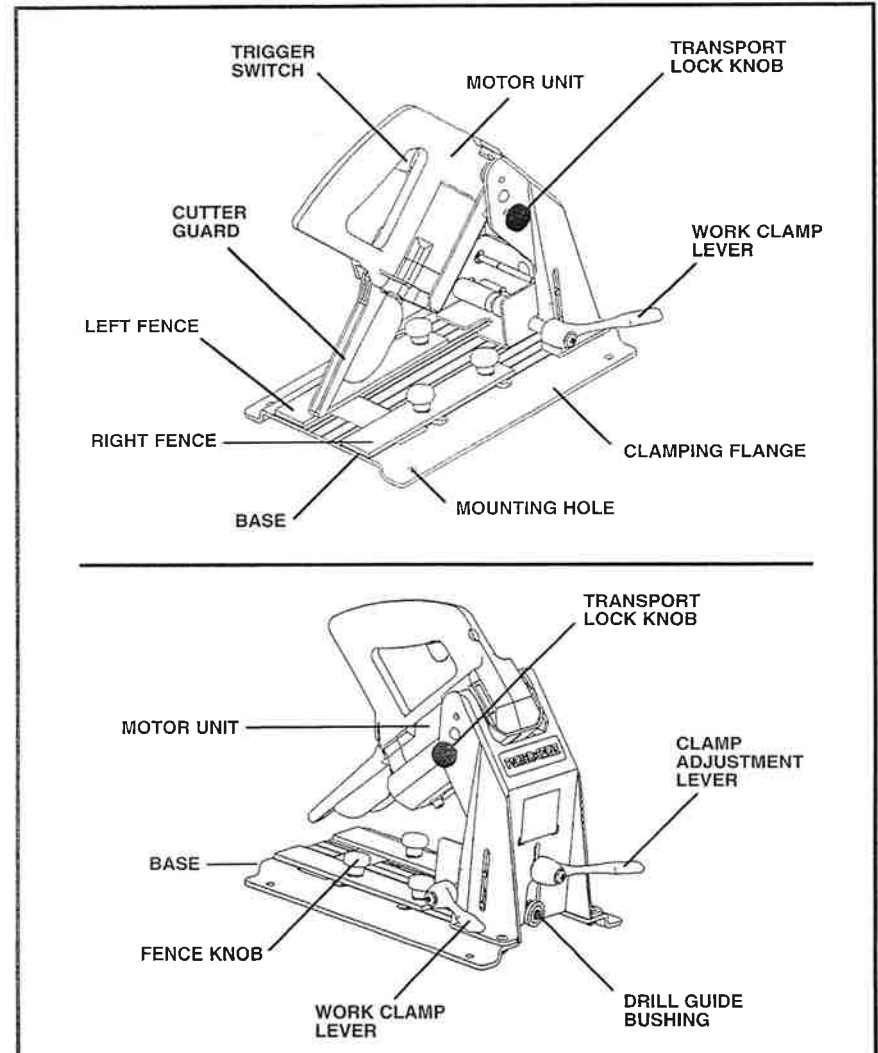

Fig. 1
2. Push downward on the handle while turning the transport lock knob (see Fig. 1) counterclockwise FOUR TO SIX FULL TURNS to release lock.
3. Pivot motor unit up and down while checking for free movement. When released, the motor unit should tilt to approximately 45° as shown in Fig. 1.
4. Engage the transport lock in the UP position before making adjustments or changing bits. **TO ENGAGE:** Tilt the motor unit into the UP position and hold while turning the lock knob clockwise until tight. **TO RELEASE:** Lift up on the motor unit and hold while turning transport lock knob (see Fig. 1) counterclockwise FOUR TO SIX FULL TURNS to release lock. Slowly lower motor and check for free movement.
1. Squeeze the trigger switch (see Fig. 1) to start motor. Release trigger switch to stop motor.